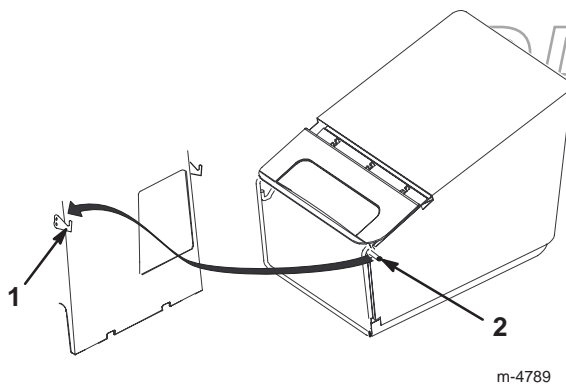

Figure 17
- Hang the grass bag frame pins onto the hooks as shown in Figure 17.
- Lift the grass bag frame pins off the hooks and out of the opening as shown in Figure 17.